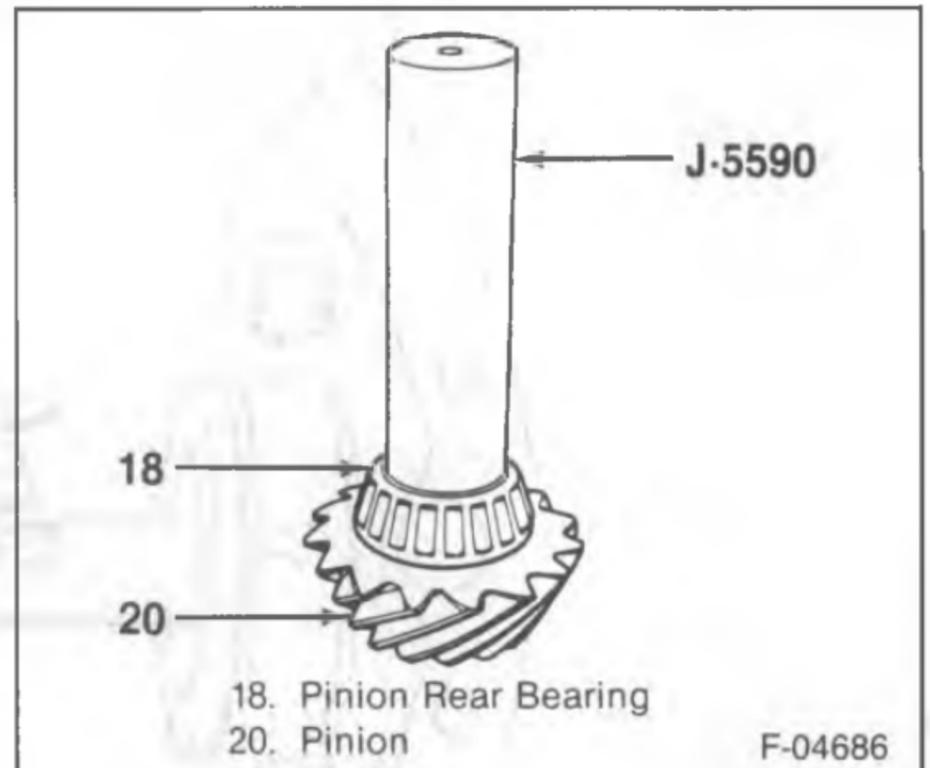

Figure 14—Installing the Pinion Inner Bearing
1. The pinion inner bearing (18) using J 5590 (figure 14).